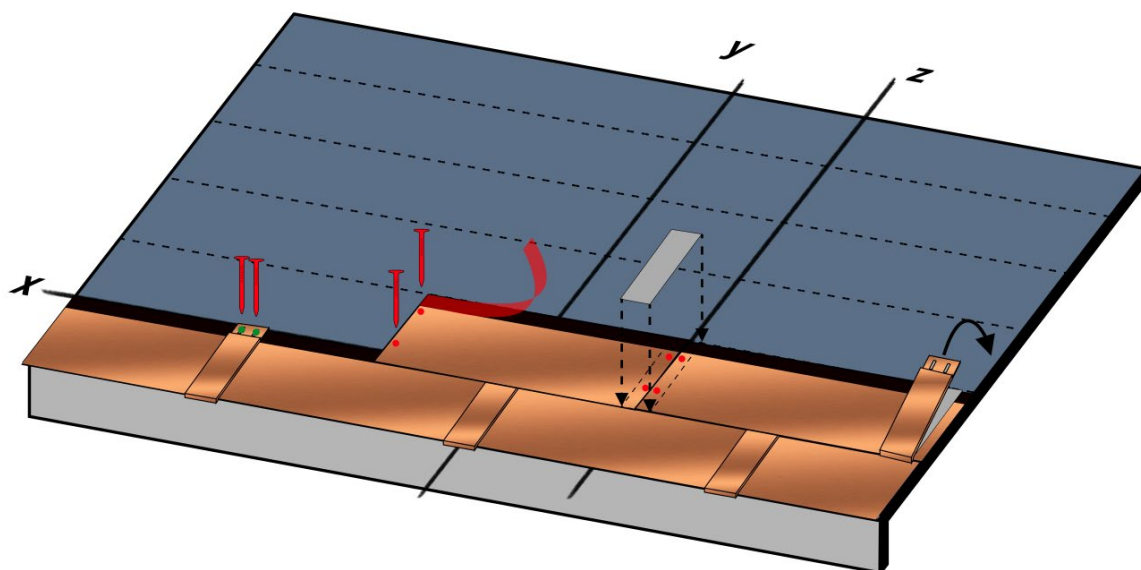
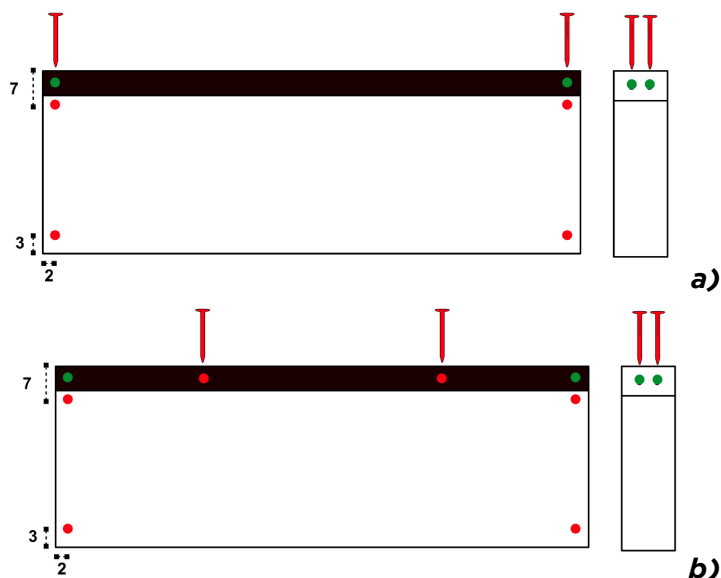

Fig. 10 - Installation of the second row of shingles
Fig. 11 - Shingle nailing **a)** slopes $< 60^\circ$; **b)** slopes $> 60^\circ$
- Proceed with the installation of the second row of shingles: align the side edge of the first shingle with the vertical line z and the upper edge with the horizontal line 29 cm away from x – Fig. 10. Nail the shingle to the substrate using 4 stainless steel nails per shingle, as shown with the red nails in Fig. 11 a). In the case of slopes between 60° and 85°, place 2 additional stainless steel nails, for a total of 6 nails per shingle, as shown with the red nails in Fig. 11 b). The green nails indicated in Fig. 11 are those used to fix the Compact Clips. Proceed with the installation of all the shingles in the row in the same manner. Remove the protective film from the self-adhesive strip on the shingles, apply the Compact Strip, and install the Compact Clip – Fig. 10.